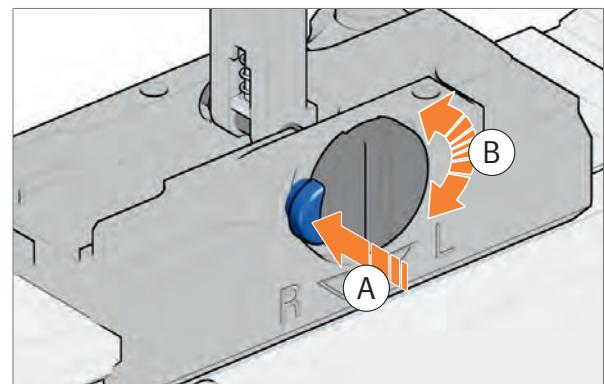

Fig. 79: Turn the windage adjustment screw
1. Press safety button for windage adjustment screw (Fig. 79). 2. Turn windage adjustment screw in direction "L" (left) (Fig. 79).	A quarter-turn changes the point of impact by approx. 3 cm at a range of 100 m.
1. Press safety button for windage adjustment screw (Fig. 79). 2. Turn windage adjustment screw in direction "R" (right) (Fig. 79).